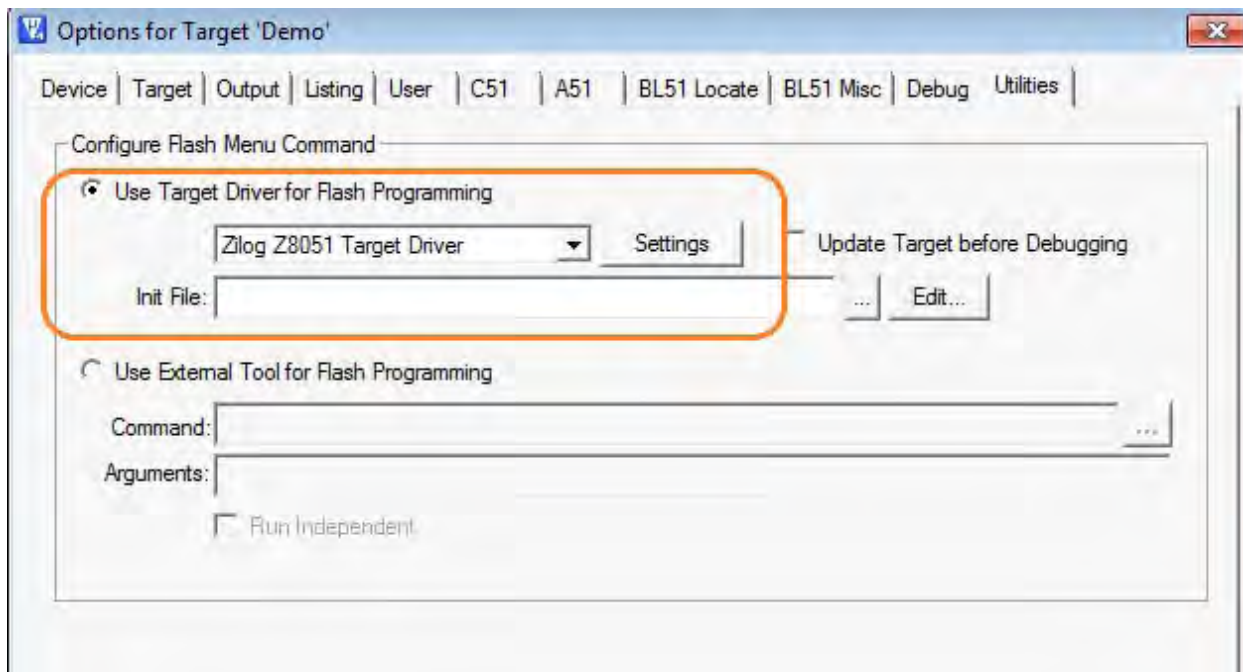

Figure 31. Selecting A Target Driver For Flash Programming
1. From the **Project** menu, open the **Options for Target 'your project'**, and click the **Utilities** tab. In the **Use Target Driver for Flash Programming** drop-down menu within the Configure Flash Menu Command pane, ensure that **Zilog Z8051 Target Driver** is selected, as indicated in Figure 31.